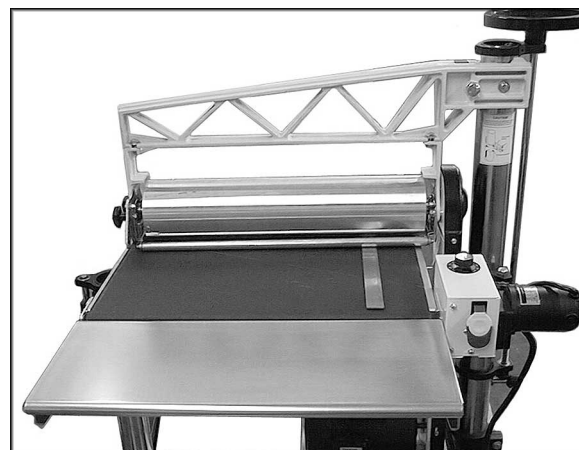

Figure 26
First inspect the alignment with a gauge of some kind. The following procedure uses a steel straight edge as a gauge. See Figure 26.
3. Insert the gauge between the drum and conveyor bed at one end of the drum (Figure 26). Raise the conveyor bed while slowly rotating drum by hand until the drum lightly contacts the thickness gauge.